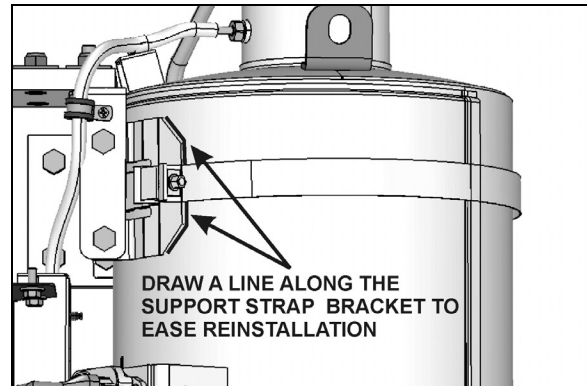

FIGURE 5: MARKING THE SUPPORT STRAP BRACKET 04024
5. To ease proper positioning of the ATD and the diffuser at the time of reinstallation, using a marker, draw a line along the support strap bracket on the ATD. This will be helpful to reposition the ATD exactly as it was before removal (figure 5).